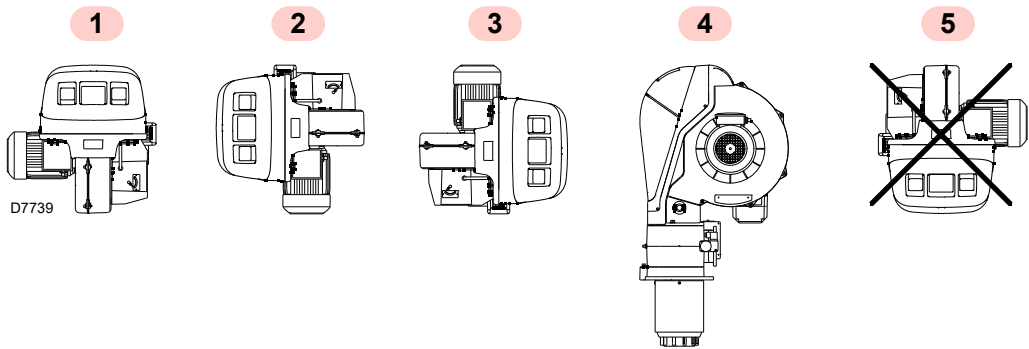

Fig. 15
- The burner is designed to operate only in positions **1**, **2**, **3** and **4** (Fig. 15).